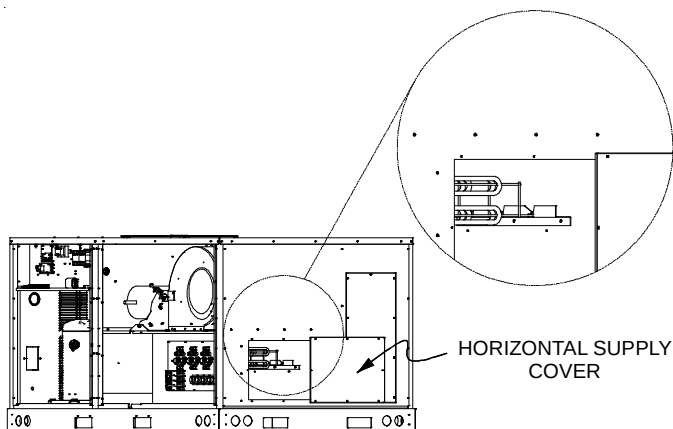

Figure 8
7. Install Heater Kit in opening using screws from heater box cover. Ensure the elements are positioned in the retaining bracket as shown in Figure 8. It may be necessary to remove the horizontal supply cover to observe the bracket. The heater box cover can be discarded.